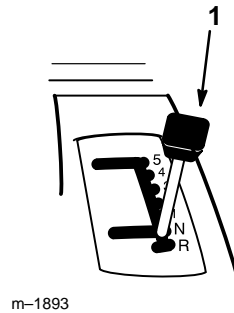

Figure 6
3. Move the ground speed selector into neutral "N" (Fig. 6).